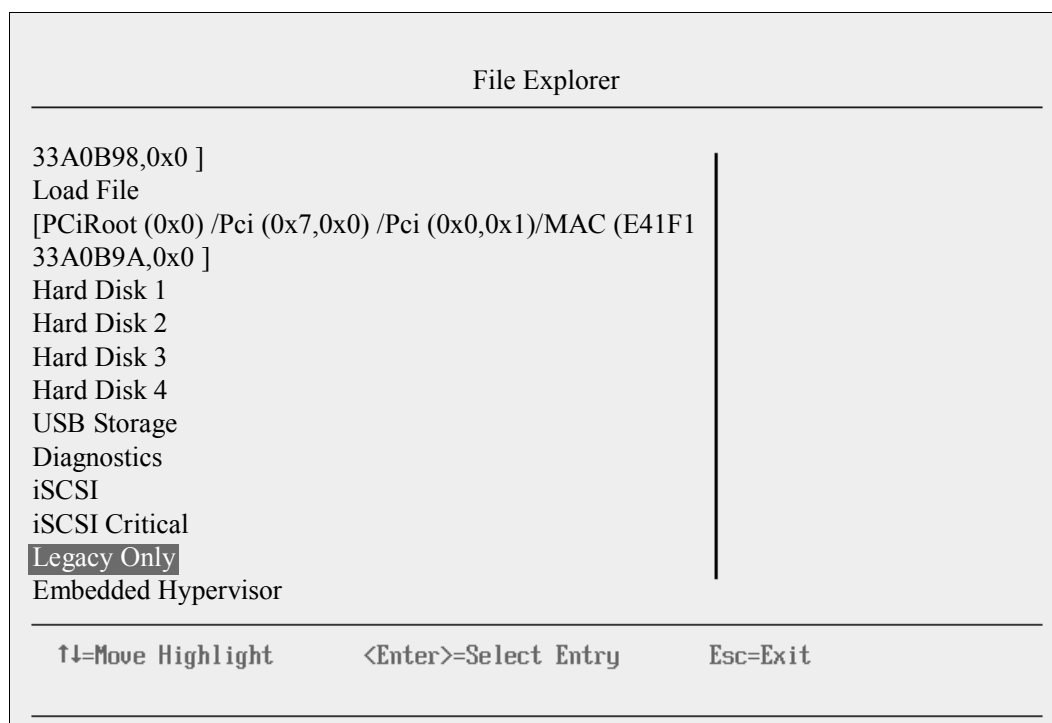

Figure 9-138 File Explorer panel
4. In the File Explorer panel (Figure 9-138), highlight **Legacy Only**, and press Enter.